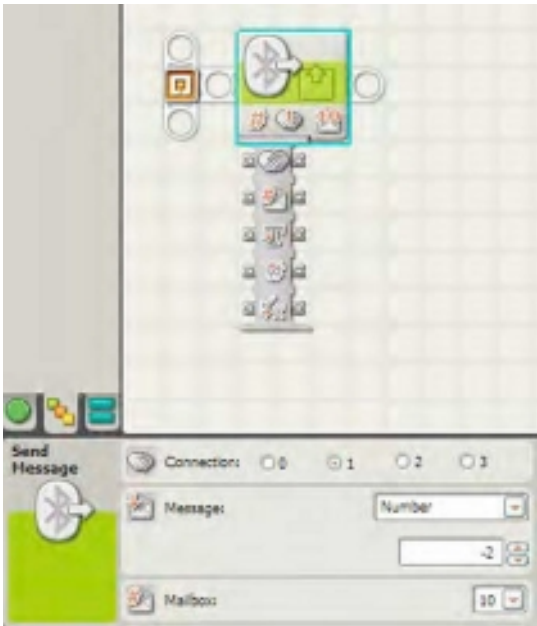

Figure 25-6. The SEND MESSAGE block and its configuration panel
The `SEND MESSAGE` block is shown in Figure 25-6 along with its configuration panel.
■ **Note** As with most of the advanced NXT blocks, the SEND MESSAGE block can be configured to receive Text, Number, or Logic values using data wires, as shown in Figure 25-6. Note that the Connection data plug is a value between 0 and 3 and is used to identify the master or slave NXT device. The master device is always configured to use the value 0, and up to three additional NXT bricks can be linked via Bluetooth, with each being identified by 1, 2, or 3. Earlier in the chapter you saw how the BLUETOOTH CONNECTION block is used to select a communication port—1, 2, or 3—to assign to a brick. When sending and receiving data between bricks, you'll want to pay attention to the port configured in the SEND MESSAGE and RECEIVE MESSAGE blocks so you get the proper data from the proper brick.